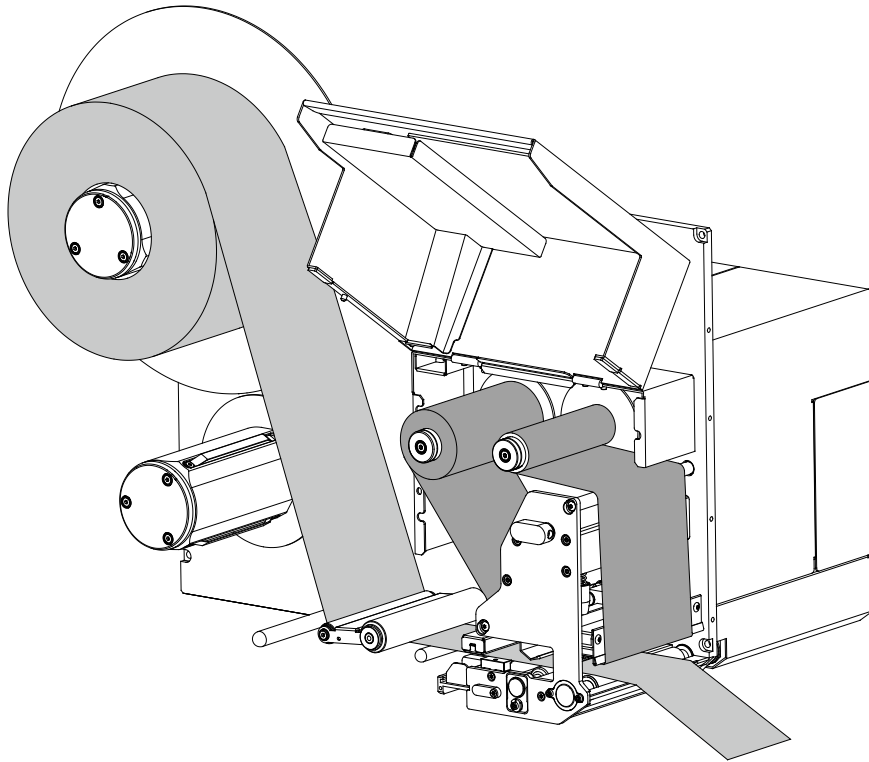

Figure 2-21 Thread the Media
2. Thread the media along the Media Path as shown in Figure 2-8, loaded media is shown in Figure 2-21.